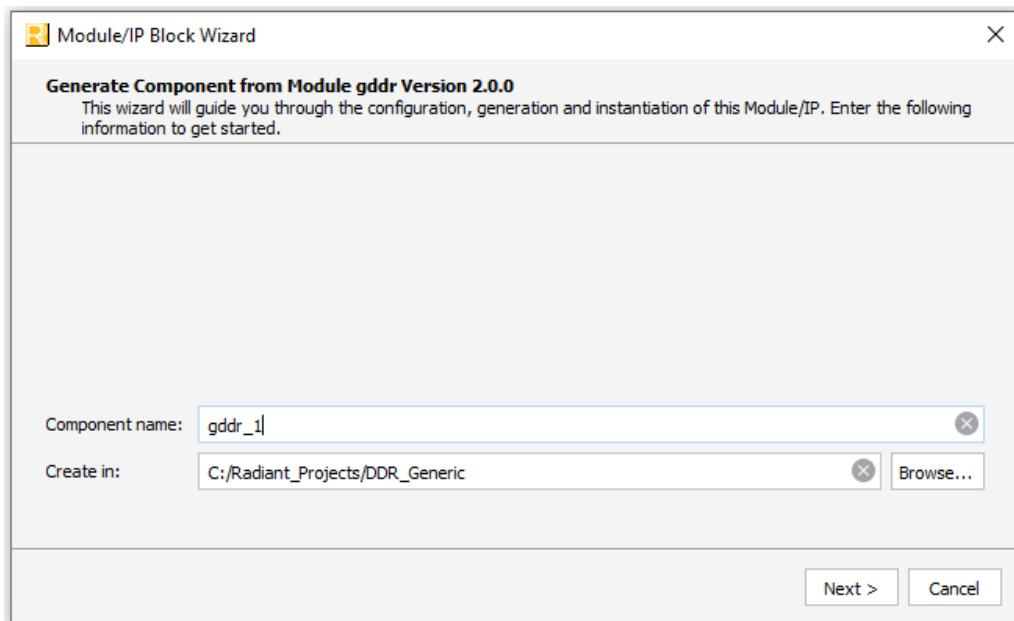
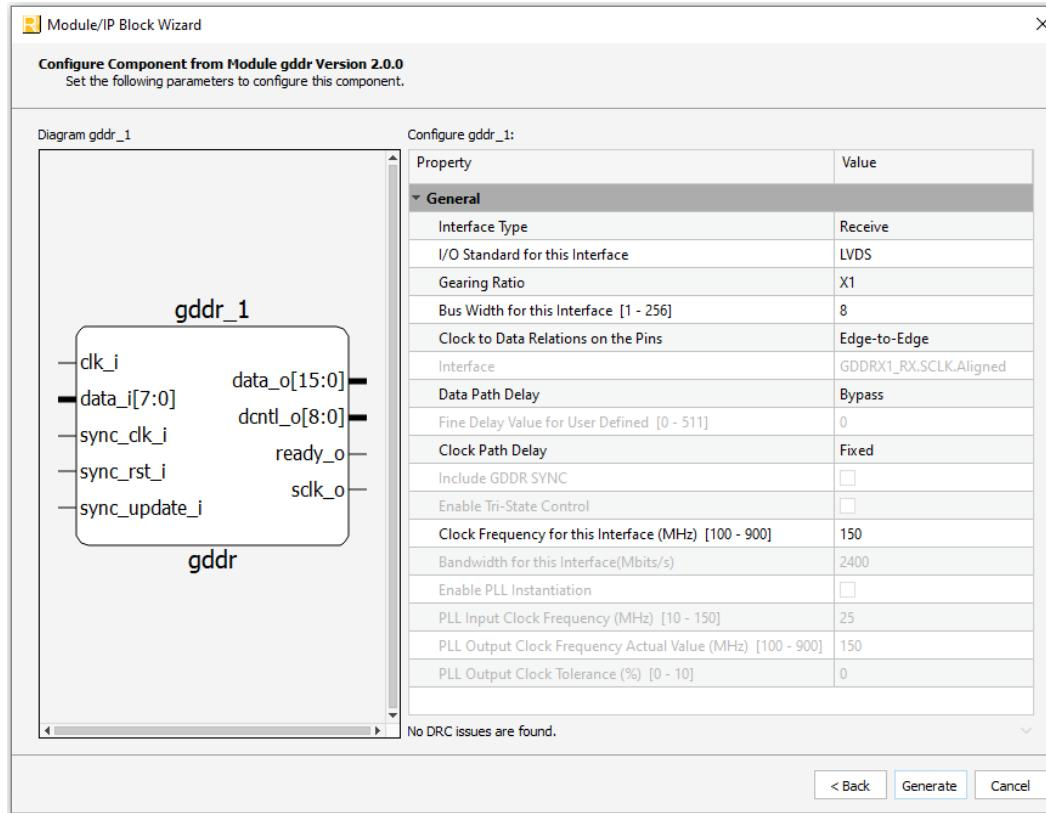
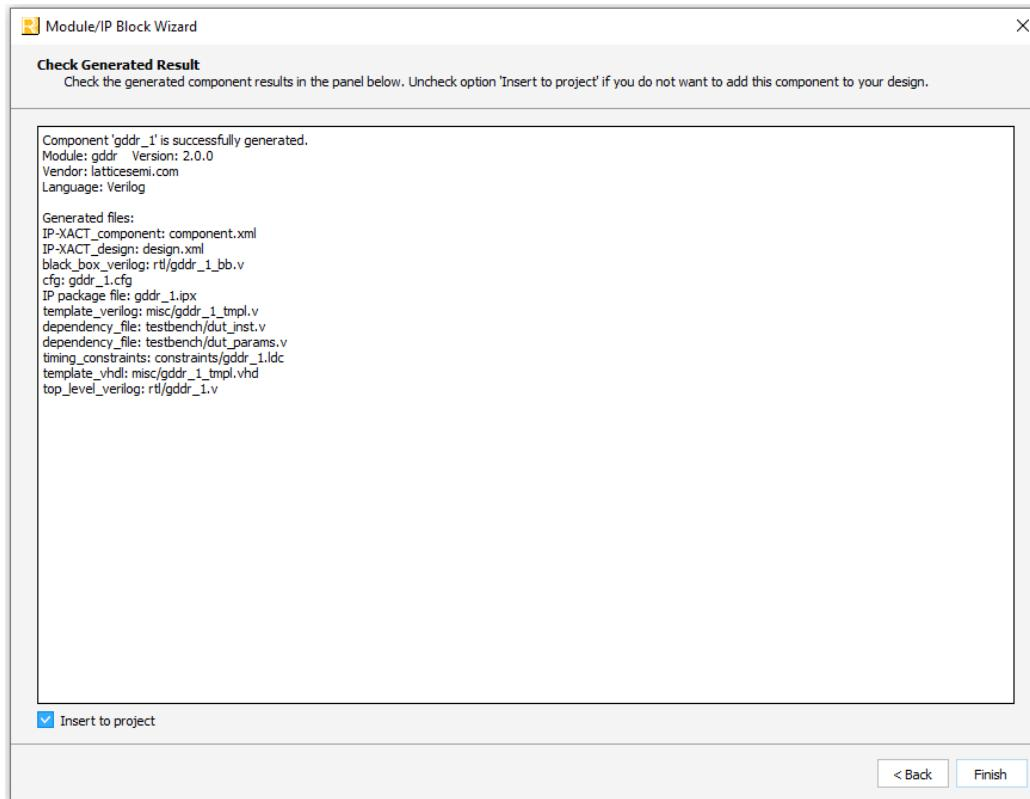

Figure 3.1. Module/IP Block Wizard
Figure 3.2. Configure Block of GDDR I/O Module
Figure 3.3. Check Generated Result
2. In the **IP Catalog** tab, double-click on **DDR_Generic** under **Module, Architecture_Modules, IO** category. The **Module/IP Block Wizard** opens as shown in Figure 3.1. Enter values in the **Component name** and the **Create in** fields and click **Next**.
3. In the module's dialog box of the **Module/IP Block Wizard** window, customize the selected GDDR I/O Module using drop-down menus and check boxes. As a sample configuration, see Figure 3.2. For configuration options, see the Attribute Summary section.
4. Click **Generate**. The **Check Generated Result** dialog box opens, showing design block messages and results as shown in Figure 3.3.
- Click the **Finish** button. All the generated files are placed under the directory paths in the **Create in** and the **Component name** fields shown in Figure 3.1.
IP Generation, Simulation, and Validation	<p>Updated below figures:</p> <ul style="list-style-type: none"> • Figure 3.1. Module/IP Block Wizard • Figure 3.2. Configure Block of GDDR I/O Module • Figure 3.3. Check Generated Result